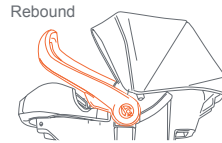

Fig. 27-1
**ONLY** use **Rebound** Handle position in vehicle. Please move handle to rebound position (Fig. 27-1).